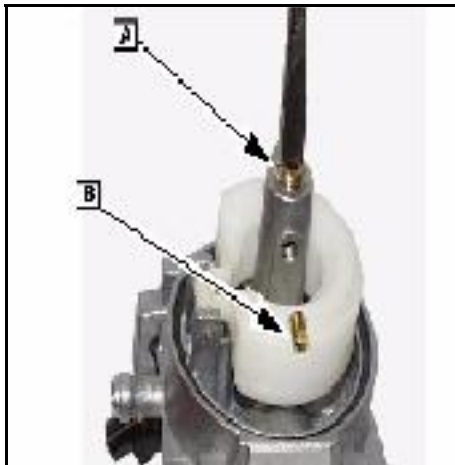

Fig. 42
CAUTION: Emulsion tube ([A] fig. 42) must be installed before main jet ([B] Fig. 42) or damage to the threads of the emulsion tube will result.
9. Install emulsion tube (A) with screwdriver #19061. Install main jet ([B] Fig. 42).